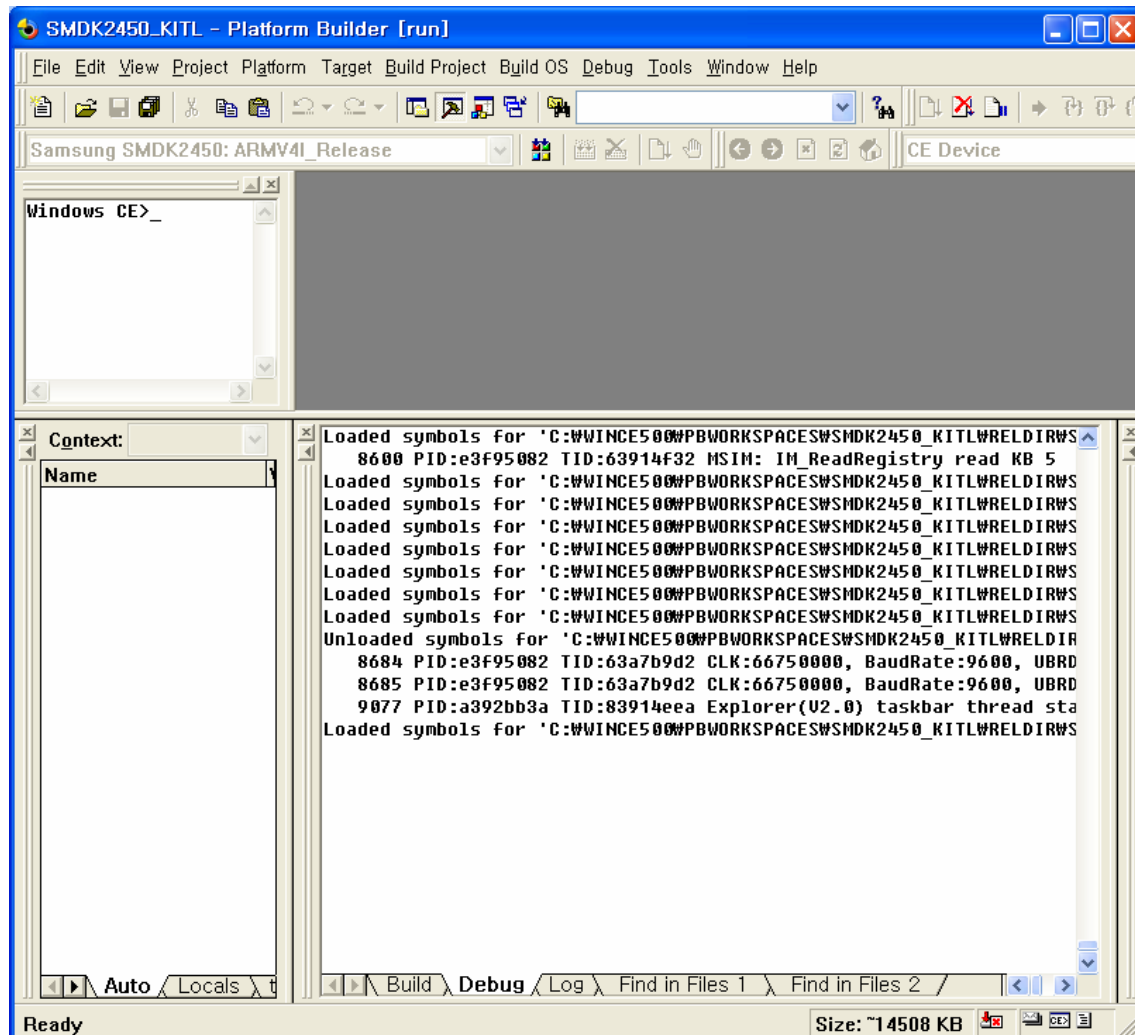

Figure 5-42 Platform Builder Window after USB Serial KITL connected
10. USB Serial KITL gets connected. Windows CE 5.0 boots on the target board and platform builder window appears as shown below in figure 5-42.